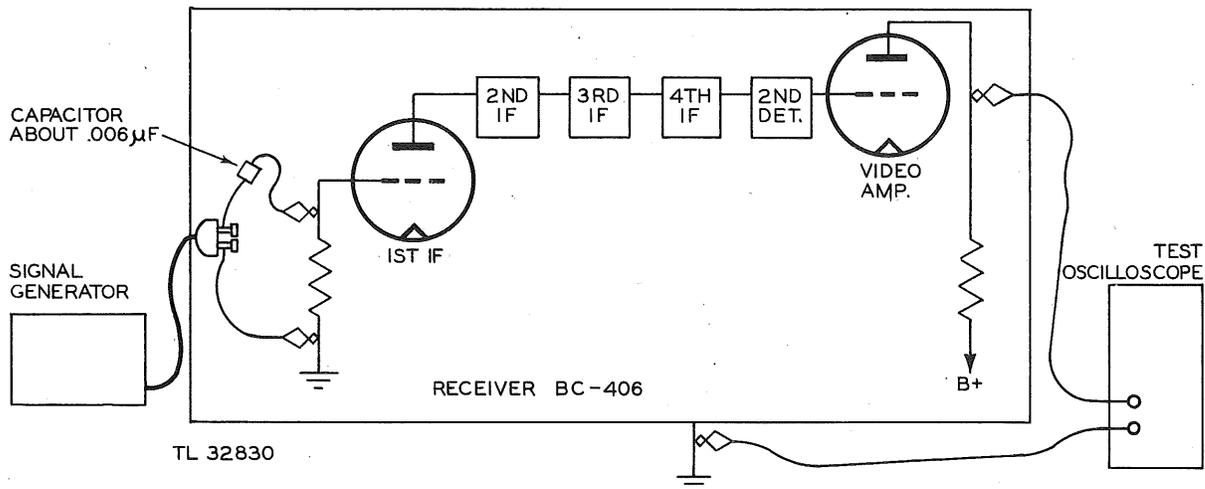

Figure 30. Signal generator, test connections.
various points of the circuit under test, and observing the change in signal output. This establishes the amount of amplification available in the respective stages of the circuit under test, and, where the proper gain is not present, indicates the approximate location of the defect. Supplementary tests with other apparatus are then made to locate the defective component of the particular stage. Figure 30 illustrates the proper test connections for using the signal generator as a source of signal input to the i-f stages of the receiver. The frontispiece shows Receiver BC-406-A being aligned by means of a signal generator and test oscilloscope.
e. *Output Coupling.* Take care when applying the signal generator to a circuit inasmuch as the secondary of the output transformer can shunt or short-circuit the bias or other operating potential in the circuit. For example, to prevent the loss of grid bias when the output of the signal generator is applied to the grid of an i-f stage in Receiver BC-406, it is necessary to insert a capacitor in series with the hot lead. Figure 30 illustrates the proper test connections.
a. *General.* The signal generator included with Test Equipment RC-68-(*) is used in connection with the alignment and repair of the radio-frequency stages of Receivers BC-406 and BC-406-A. The proper signal input for alignment of the r-f and i-f stages of the receiver is provided, and the same signal is used to trace signals for fault location in these stages. Figure 30 illustrates the proper test connections for using the signal generator as a source of signal input to the i-f stages of the receiver.
(1) Measurements model 78-B has two frequency ranges: 15 to 25 megacycles, and 195 to 225 megacycles.
(2) Measurements model 78-C also has two frequency ranges: 15 to 25 megacycles, and 90 and 125 megacycles.
(1) Measurements model 78-B has two modulating frequencies that can be applied to the signal generated: 400 cycles per second, and 8,200 cycles per second.
(2) Measurements model 78-C also has two modulating frequencies that can be applied to the generated signal: 400 cycles per second, and 625 cycles per second.
d. *Output Coupling.* There is no blocking capacitor in the output circuit of this signal generator, and the secondary of its output transformer can provide a short-circuited path for d-c potentials, for example, bypassing the bias or any other operating potential. For this reason care must be taken in making connection of the test leads when applying the signal voltage to a circuit under test. For instance, if the signal-generator output terminals are connected directly across the grid circuit of any i-f stage, the grid bias will be shorted out if a blocking capacitor is not inserted in series with the *hot* lead. The proper connection for applying a signal voltage to the grid of the first i-f is illustrated in figure 30. When working at approximately 200 mc, the value of the blocking capacitor should be about 0.002 mf; when working in the i-f system at approximately 20 mc, the value of this blocking capacitor should be about 0.006 mf.